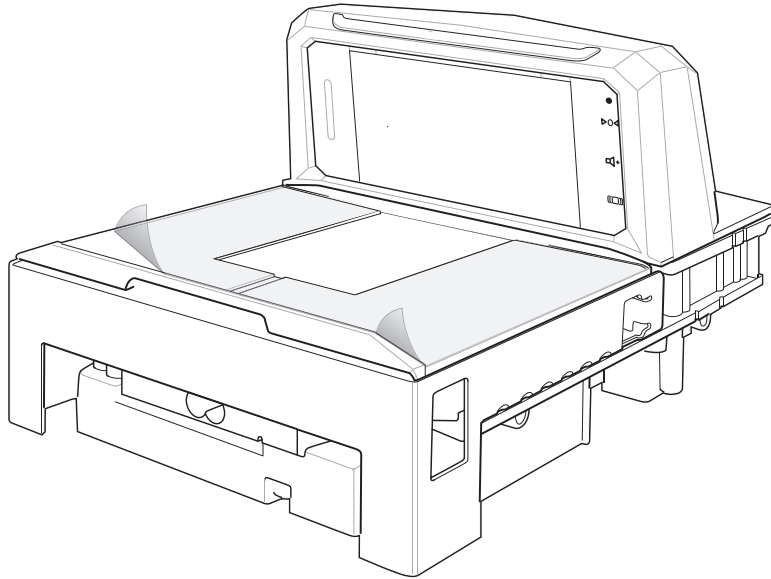

Figure 3-4 *Platter Protector*
2. For added protection during shipment, the MP6000 platter is covered with a tight fitting layer of plastic as shown in Figure 3-4. This plastic layer must be removed before placing the unit into service. (In the case of a scale model, just before scale calibration; and, in case of a non-scale model, as the final step of installation)